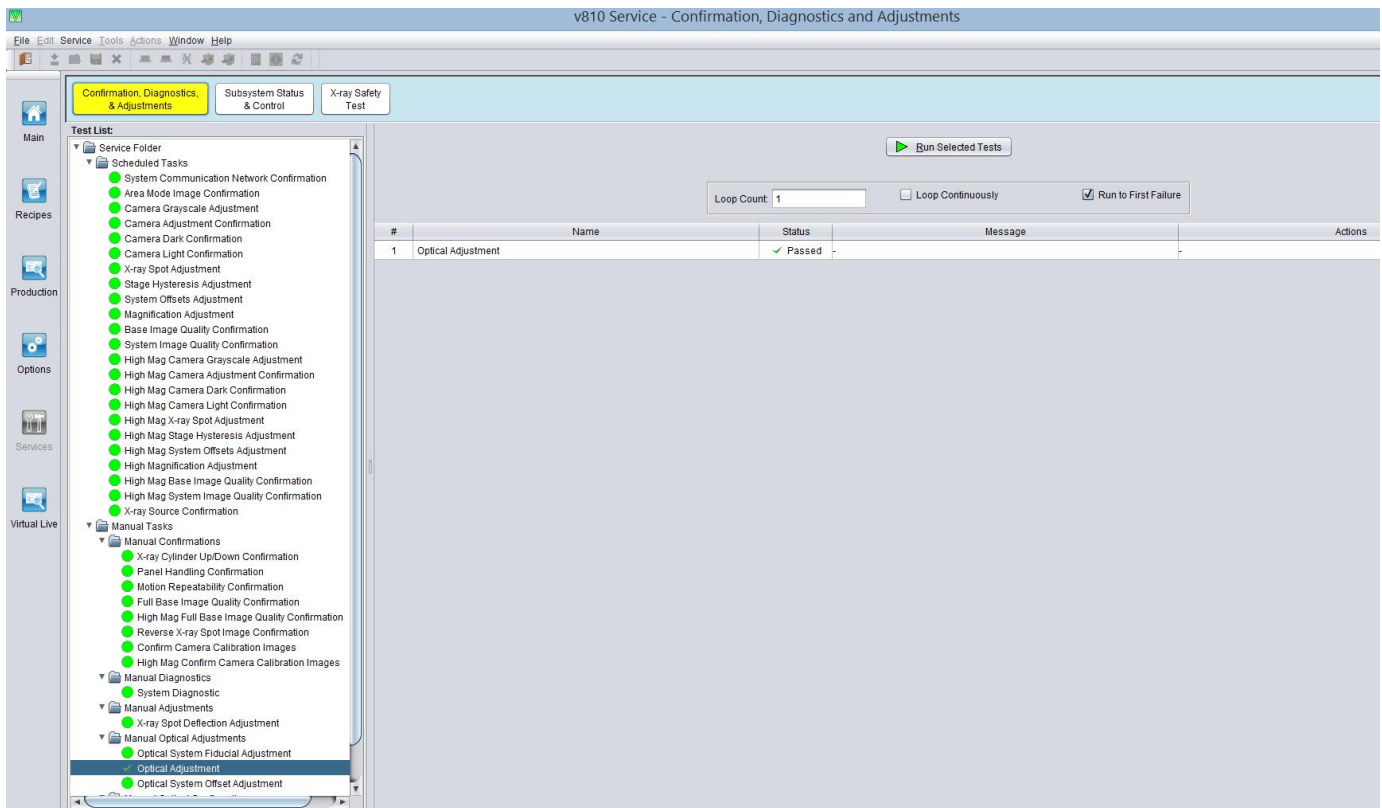

Figure 21 Optical Adjustment
17. Once the jig is removed as shown in the Step 16 and the outer barrier is closed, the status of the test will be shown in the Figure 21.